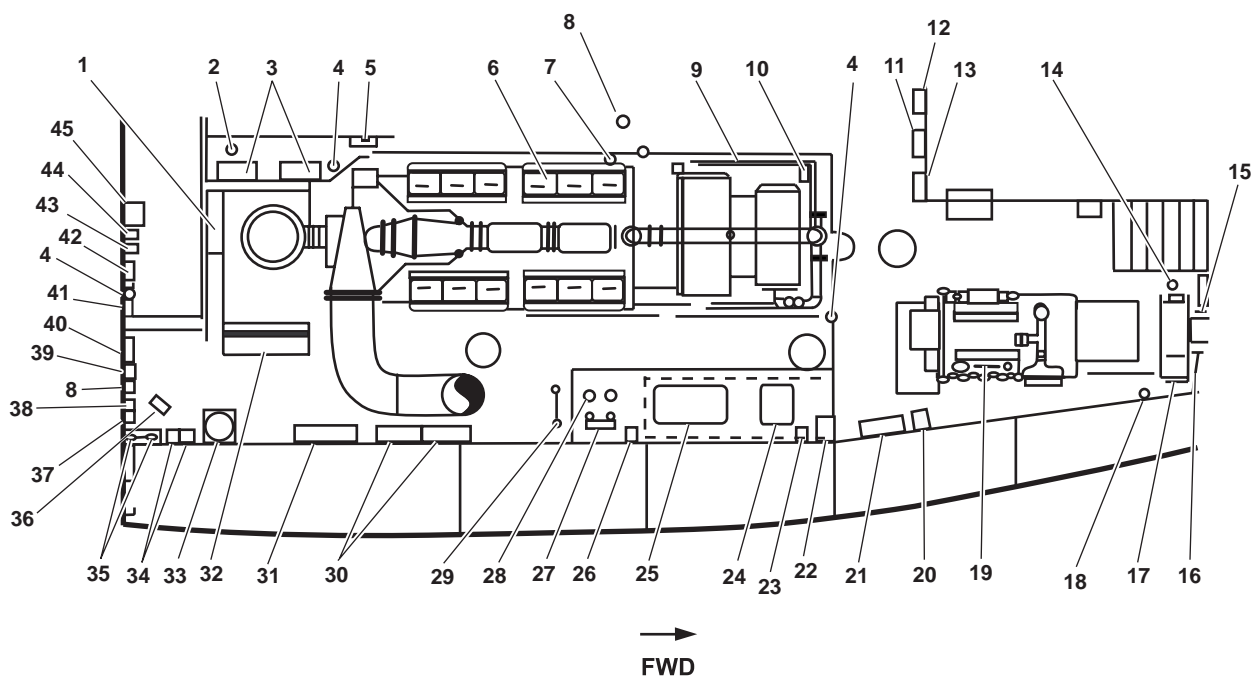

Figure 3. Engine Room, Starboard Side
1. Shaft brake panel 1 (figure 3, item 1). This panel provides control for the starboard shaft brake.
2. Lube oil hand pump (figure 3, item 2). The lube oil hand pump pumps lube oil from the reduction gears to the oily waste system.
3. Reduction gear cooling pumps (figure 3, item 3). The reduction gear cooling pumps are electric pumps that circulate cooling water for the reduction gears.
4. Fire extinguisher (figure 3, item 4). The fire extinguisher is used to extinguish small fires.
5. Fire alarm pull station and reduction gear 1 and 2 fresh water cooling pump pressure gauges (figure 3, item 5). The fire alarm pull station is used to activate the fire alarm. The cooling pump pressure gauges indicate the pressure of the reduction gear coolant.
6. Main engine 1 (figure 3, item 6). Main engine 1 is an air-started, fresh water-cooled main propulsion engine. Main engine 1 rotates clockwise when viewed from the flywheel.
7. General alarm bell (figure 3, item 7). The general alarm bell sounds a general alarm, indicating various conditions and emergencies.
8. General alarm light (figure 3, item 8). The general alarm light illuminates indicating various conditions and emergencies.
9. Engine control panel (figure 3, item 9). The engine control panel houses controls and status displays for the main engines.
10. Engine alarm horn (figure 3, item 10). The engine alarm sounds the engine alarm, indicating various conditions and emergencies.
11. Load center distribution panel (figure 3, item 11). The load center distribution panel supplies 120V to four distribution panels and to the machine shop.
12. Horn and PA speaker with volume control (figure 3, item 12). The horn sounds to alert the crew when the sound powered telephone (in EOS) has an incoming call. The PA speaker with the volume control amplifies messages throughout the engine room.
13. 440V power panel No. 1 (figure 3, item 13). 440V power panel No. 1 provides 440 volt power distribution for engine room equipment.
14. Fire alarm pull station (figure 3, item 14). The fire alarm pull station activates the fire alarm when pulled.
15. Sewage discharge pump 1 motor controller (figure 3, item 15). The sewage discharge pump 1 motor controller turns sewage discharge pump 1 ON and OFF.
16. AMS 1 watertight door hand pump (figure 3, item 16). The AMS 1 watertight door hand pump is used to open and close the AMS 1 sliding watertight door.
17. Sewage discharge pump 1 (figure 3, item 17). Sewage discharge pump 1 is an electrically powered pump that pumps contents of the sewage tank to the sewage shore connection or overboard.
18. Aqueous Film Forming Foam (AFFF) pump suction gauge (figure 3, item 18). This AFFF pump suction gauge indicates the suction pressure of the AFFF pump.
19. Ship's Service Diesel Generator (SSDG) 1 (figure 3, item 19). The SSDG 1 is a battery-started (24 Vdc), fresh water-cooled, diesel engine-driven service generator providing electric power to the main switchboard.
20. Oily waste storage tank level indicator (figure 3, item 20). The oily waste storage tank level indicator displays the amount of oily waste present in the tank.
21. 120V emergency distribution panel No. 1 (figure 3, item 21). The 120 volt emergency distribution panel no. 1 provides emergency power distribution for selected equipment.
22. Battery chargers (figure 3, item 22). Two battery chargers maintain the charge of two battery banks. One charger is for SSDG 1, the other for the machinery plant monitoring system.
23. Oil Content Monitor (OCM) (figure 3, item 23). The OCM monitors the oil content of the effluent discharge from the oil water separator and prevents overboard discharge of contaminated effluent.
24. Battery banks (figure 3, item 24). The upper battery bank provides battery power to start SSDG 1 and the lower battery bank provides power for the machinery plant monitoring system and engine control.
25. Oil water separator (figure 3, item 25). The oil water separator separates oil from water and discharges the water overboard sending only the separated oil back to the oily waste tank.
26. Oily bilge and oil water separator pressure gauges (figure 3, item 26). The oily bilge and oil water separator pressure gauges indicate the amount of pressure within the oily bilge and oil water separators.